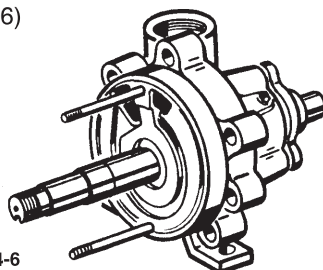

Figure 4-6
- Slide a left hand channel ring (#10B) down the guide rods. The counterbore in the ring should fit over the hub of the diffuser. The port in the channel ring would be at the eleven o'clock position with the pump feet down. Be careful not to pinch the "O" ring. (refer to figure 4-6)